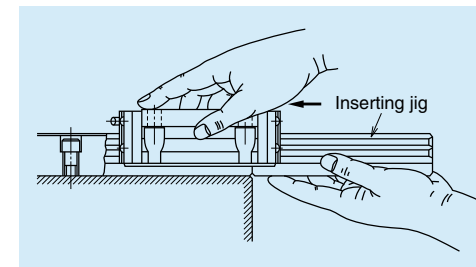

Fig. 10.27
- If it is unavoidable to remove slides from the rail, make certain to use a provisional rail (a jig used to insert a slide to the rail) as shown in **Fig. 10.27**.